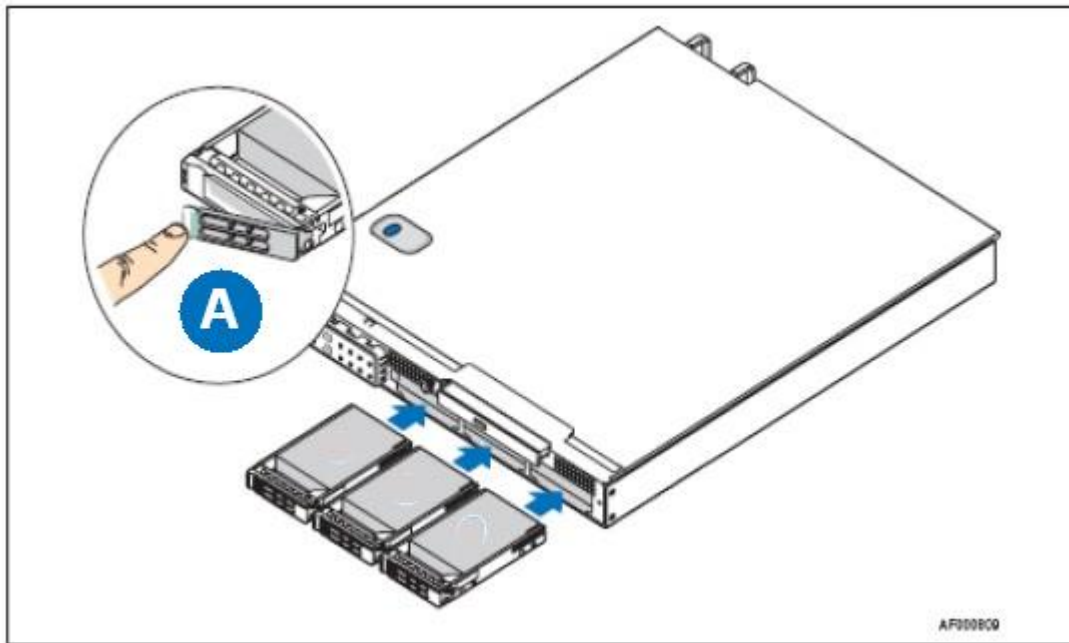

Figure 25: Inserting New Drive Assembly into Chassis
2. With the drive tray locking lever fully open, push the drive tray into the drive bay in the chassis until it stops (Figure 25: Inserting New Drive Assembly into Chassis).
3. Press the lever until it snaps shut to close the hard drive in the bay (Inset "A" in Figure 25: Inserting New Drive Assembly into Chassis).